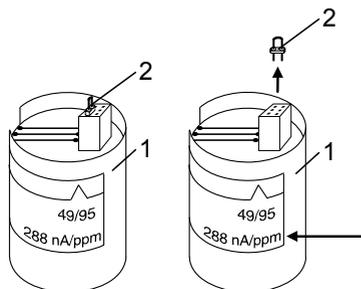

Fig. 4 Removing the short-circuit jumper
1. Take the sensor element (1) out of the packaging.
2. Read the sensor slope of the sensor element (indicated by an arrow in fig. 4), and note it for later adjustment of the gas warning device.
3. **Caution:** Remove the short-circuit jumper (2) from the sensor element (1). See fig. 4.